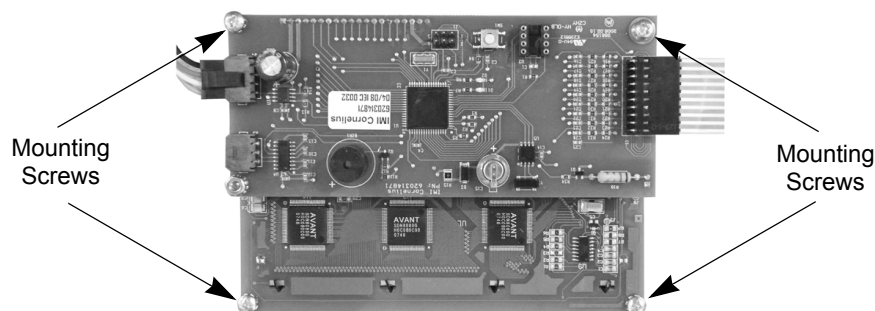

Figure 50. View of Display Board
The display board is located on the back of the control panel display. It is mounted to the panel with four (4) phillips head screws, shown in Figure 50. To replace the board, perform the procedure in Table 59.